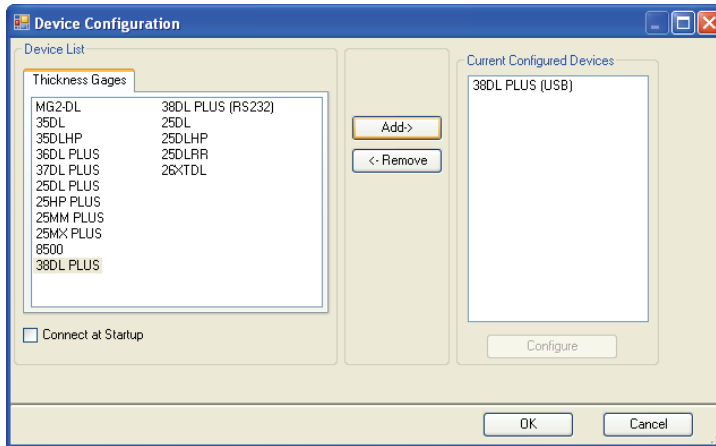

Figure 14-7 The Device Configuration dialog box
- b) In the **Device Configuration** dialog box (see Figure 14-7 on page 254):
- (1) In the **Device List**, select 38DL PLUS, and then click **Add**.